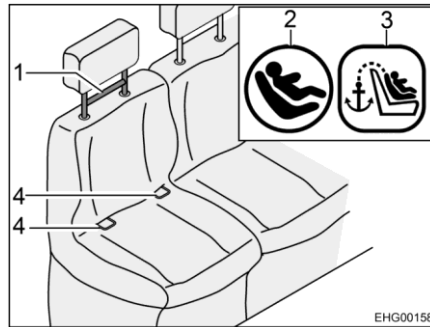
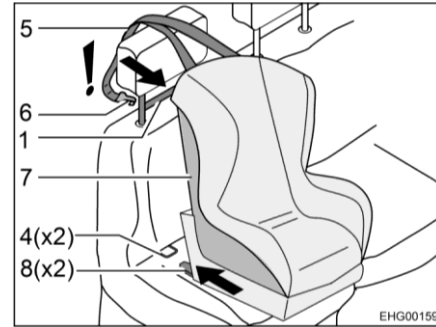

Fig. 20 Seat with Isofix
Fig. 21 Fixing with Isofix
Isofix-suitable car seats are provided with the Isofix symbol (Fig. 20,2). The position of the top tether is marked with a symbol (Fig. 20,3), too.
- Connect the connectors (Fig. 21,8) to retaining brackets (Fig. 20,4) such that they are firmly engaged. While doing this, a distinctive click must be heard.
- With a strong jerk, check if the child seat (Fig. 21,7) is firmly connected.
- Route top tether strap (Fig. 21,5) over the headrest of the vehicle seat.
- Hook fixing hook (Fig. 21,6) in at the top tether (Fig. 20,1).